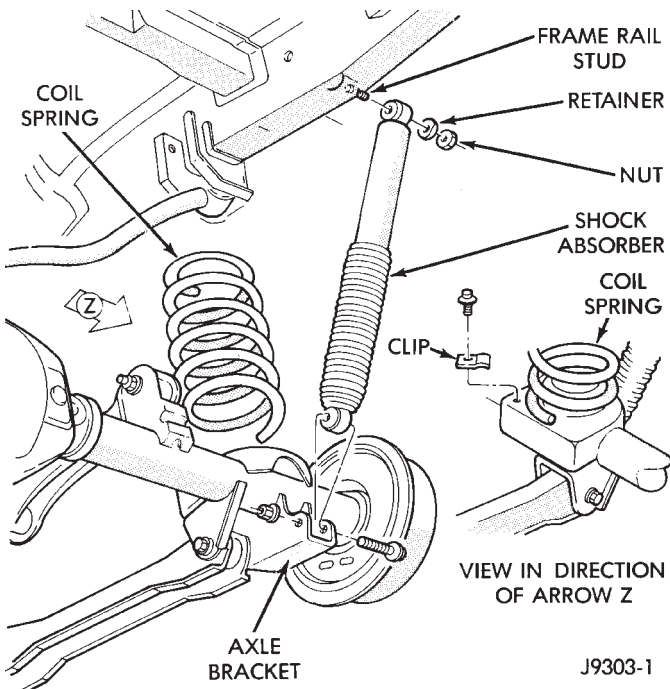

Fig. 4 Rear Coil Spring & Shock Absorber
(1) Remove the upper nut and retainer from the frame rail stud (Fig. 4).
(2) Remove the lower nuts and bolts from the axle bracket. Remove the shock absorber.
(1) Install the shock absorber on the upper frame rail stud. Install the shock absorber on the axle bracket (Fig. 4).
(2) Install the retainer and nut on the stud. Tighten the upper nut to 70 N•m (52 ft. lbs.) torque.
(3) Tighten the lower nut to 92 N•m (68 ft. lbs.) torque.
(3) Disconnect the track bar from the frame rail bracket.
(4) Lower the axle until the spring is free from the upper mount seat. Remove the coil spring clip screw (Fig. 4) and remove the spring.
(1) Position the coil spring on the axle pad. Install the spring clip and screw (Fig. 4). Tighten the screw to 22 N•m (16 ft. lbs.) torque.
(2) Raise the axle into position until the spring seats in the upper mount.
(3) Connect the stabilizer bar links and shock absorbers to the axle bracket. Connect the track bar to the frame rail bracket.
(4) Remove the supports and lower the vehicle.